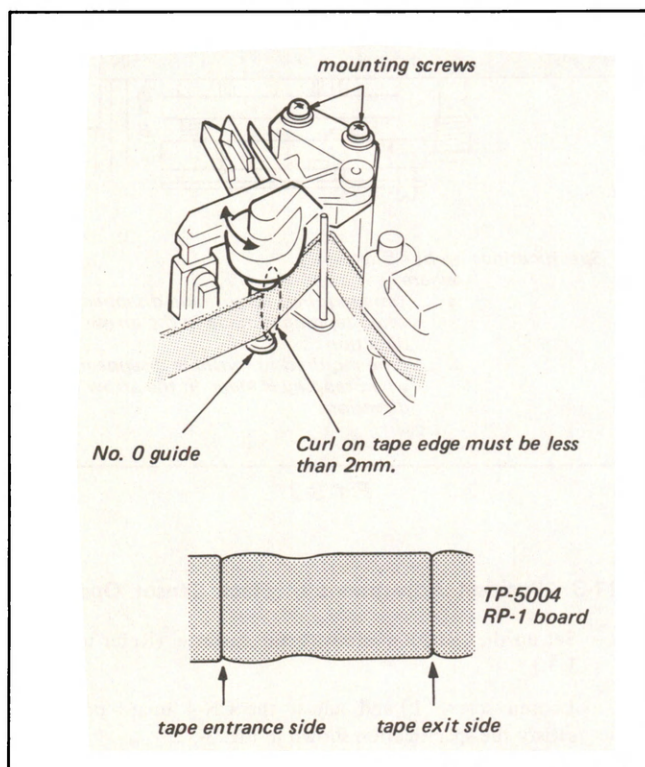

Fig. 3-27. Position adjustment of No.0 guide section assembly mounting
- (ii) Turn the TRACKING control knob so that the RF waveform at TP5004 on RP-1 board is 2/3 of its maximum level. (See Fig. 3-27.)
- (iii) Turn the No.0 guide shown in Fig. 3-27 fully counter-clockwise (↺), then clockwise until the point where the RF waveform at the exit section becomes flat with small fluctuation, and tighten the mounting screws.